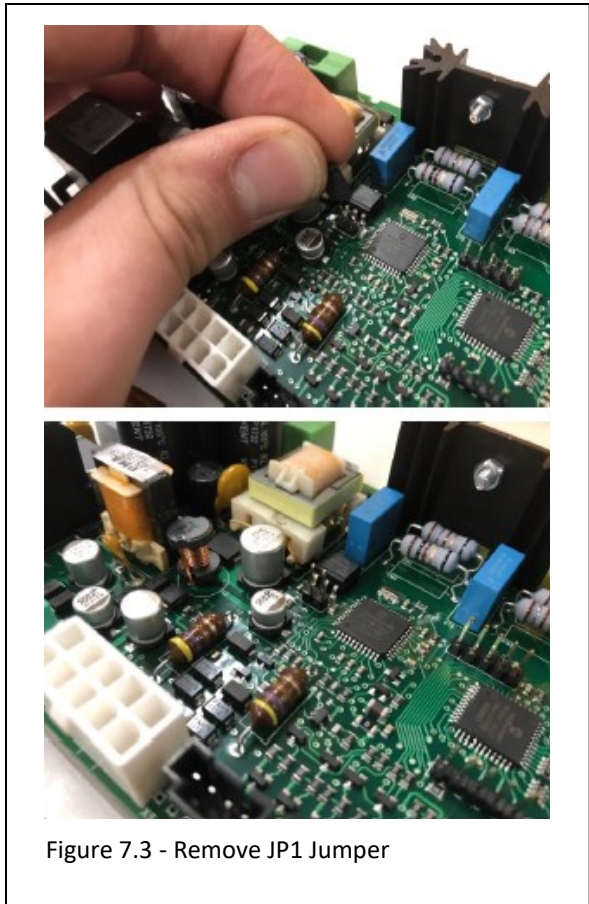

Figure 7.3 - Remove JP1 Jumper
3. Pull the plastic jumper straight up to expose the two individual pins underneath it. This changes the control module function from a natural draft system to a power vent system. See Figure 7.3.